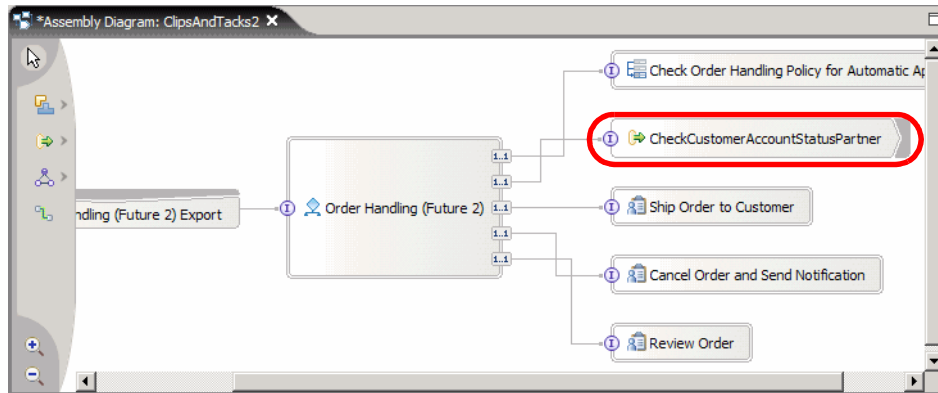

Figure 15-4 Wire references to imports
- ▶ In the ClipsAndTacks2 diagram, select the Order Handling (Future 2) process and *Wire References to New* → *Imports*. This creates an import named *CheckCustomerAccountStatusPartner* (Figure 15-4).